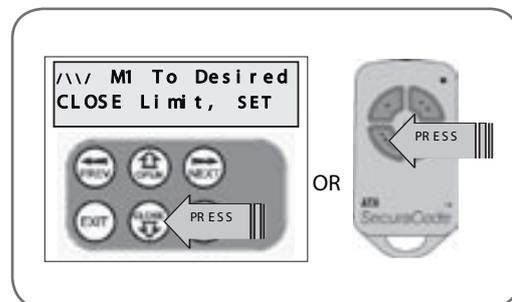

fig 23
1. Press CLOSE to move M1 gate to the desired CLOSE LIMIT (or press button 4 on transmitter) (Fig. 23).